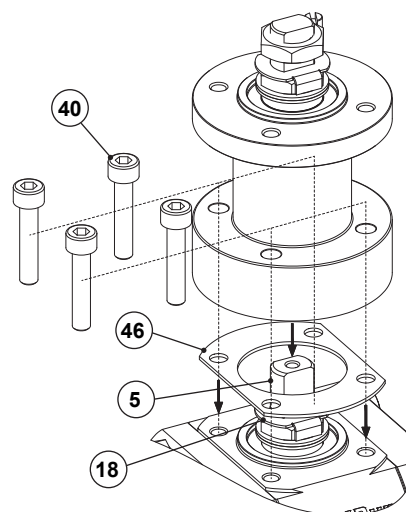

Fig. 3: SEF stem extension assembly
1. Remove the handle fixing bolt (22) or handle fixing nut (17A), handle (14) and handle stopper (21) if installed.
2. Place the SEF unit together with the gasket (46) over the valve stem (5) with the lock washer (18) still in place – see Fig. 3.
3. Tighten the four bolts (40) in a crisscross pattern until the recommended tightening torques are achieved – see section 9.5 – Tightening torques.